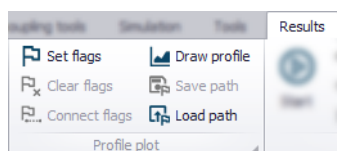

Figure 20.44 Set flags from the Profile Plot toolbox on the Results ribbon
- Set path flags on the result map using the 'Set flags' tool from the Profile Plot toolbox on the Results ribbon (Figure 20.44).